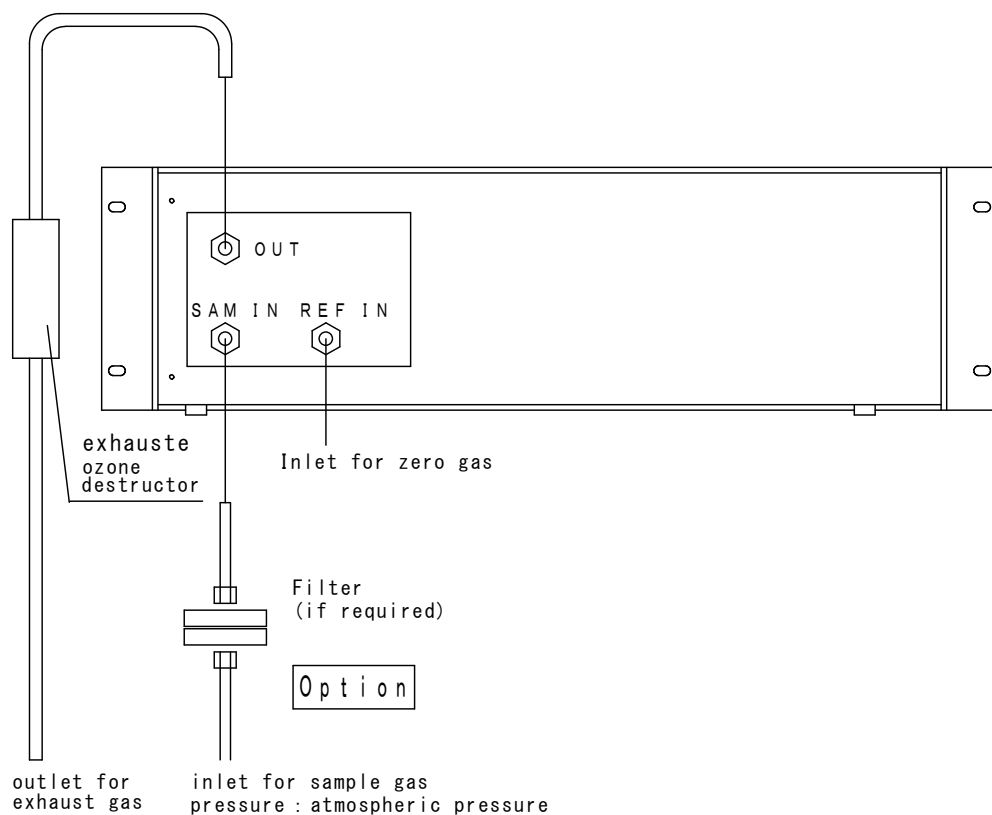

Figure- 7 Piping connection
- (1) When connecting the piping between inlet of sample gas and the inlet of the monitor should desirably be as short as possible within a necessary length and with minimum bending.
- (2) If the sample gas has high humidity, an electric humidifier should be equipped.
- (3) Consider to avoid containing moisture and dust etc in a sample gas.
- (4) The ozone gas after measurement should be open to atmosphere using off-gas treatment device at the outlet piping of the monitor.
- (5) When generated ozone gas and reference gas are clean enough, filter is not necessary. Still more, when dust, mist and etc. exist, use the supplied filter referring "Figure-7 Piping connection".